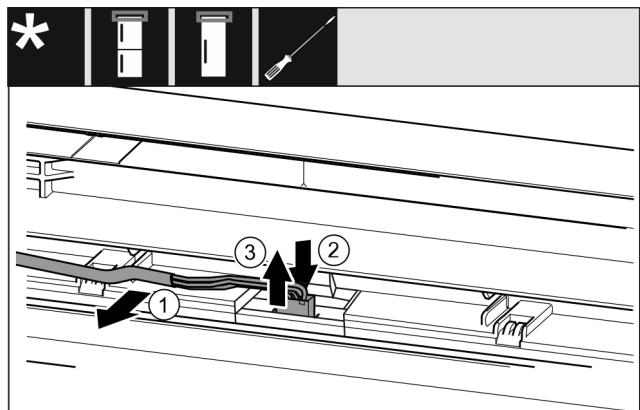

Fig. 14 Fridge/freezer combinations / freezers / refrigerators
- Release the cable Fig. 14 (1) from the guide in the door carefully.
- Push the tab Fig. 14 (2) behind the plug backwards.
- Pull the plug Fig. 14 (3) out upwards carefully.